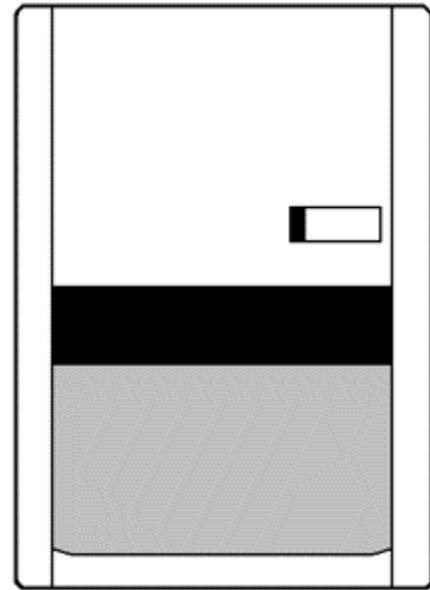

Figure 9.5 - PIR Masking Horizontal Example
- 2) Place one strip of electrical tape horizontally across the top of the PIR lens (see figure 9.5). This will cover the high beam.